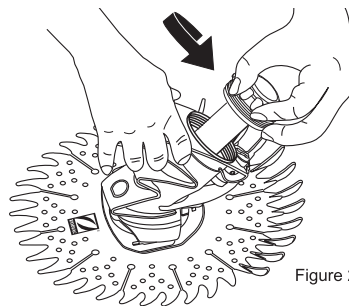

Figure 2
1. Unthread the handnut and slide it off the engine outer extension tube (see Figure 2), and set aside.